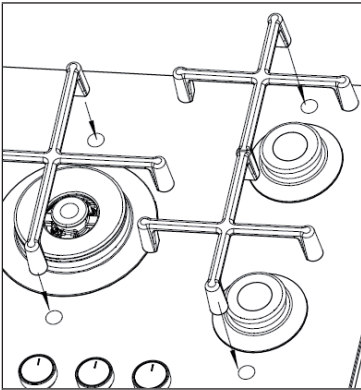

Figure 8
- Put the pan support on the mark of top plate (see figure 8).